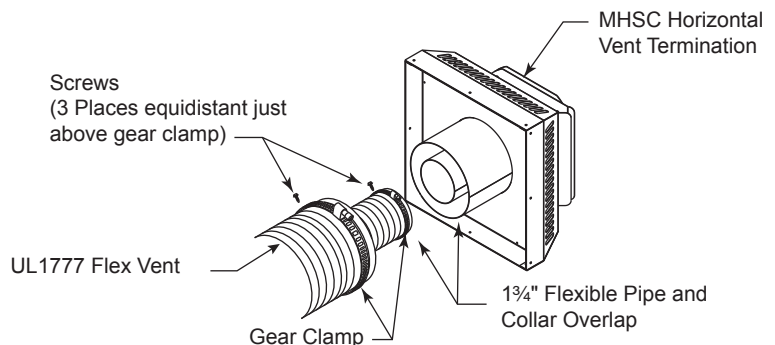

Figure 40 - Typical Horizontal Flex Vent Installation
1. Connect the 5" flexible vent to the horizontal termination as in *Figure 40*.
2. Connect the 8" flexible vent to the termination ring as in *Figure 40*.
3. Review *Figure 40* for proper overlap and clamp placement.
5. Use only listed an approved terminations and accessories, installed per the termination instructions and *Figure 40*.
CAUTION A manual shutoff valve must be installed upstream of the appliance. Union tee and plugged 1/8" NPT pressure tapping point should be installed upstream of the appliance. *Figure 40*